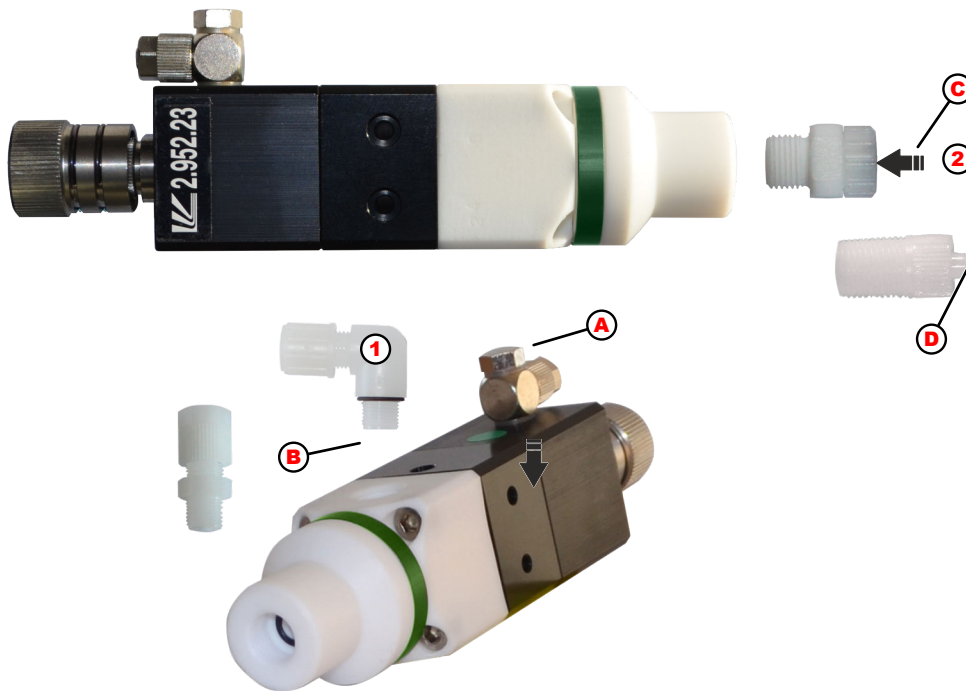

Fig. 1: EP and EP-FD dosing valves 295218, 295219, 295223: Connections for product inlet and outlet (fig. example with valve 295223)
2. ➤ Remove elbow joint (Fig. 1, pos. 1/A) from the packaging.